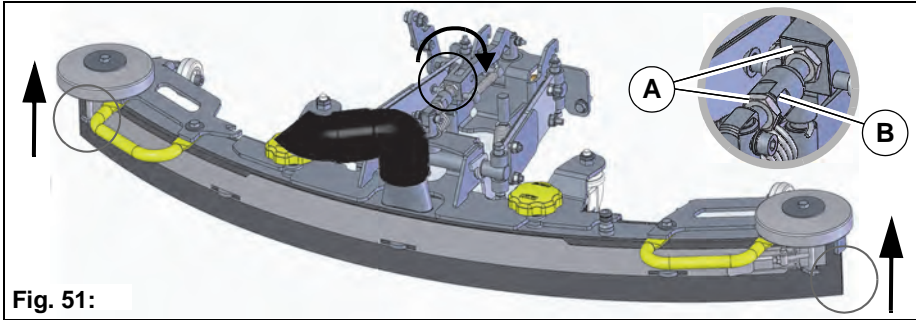

Fig. 51:
2. Loosen the lock nuts **Fig. 51-A** and turn the adjusting bushing **Fig. 51-B** to adjust the squeegee so that the ends of the sealing strips barely have contact with the ground.
The distance of the sealing strip to the ground increases at the ends **Fig. 51**.